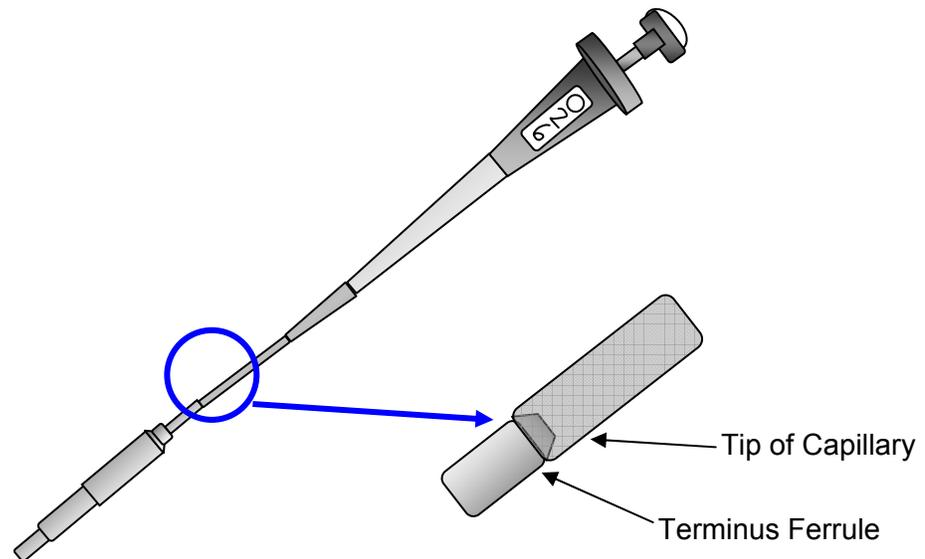

Figure 7-30 – Injecting the Epoxy into the 801 Terminus Ferrule.
Step 10 - Position the end of the capillary over the end of the ceramic ferrule of the 801 terminus. See Figure 7-30.